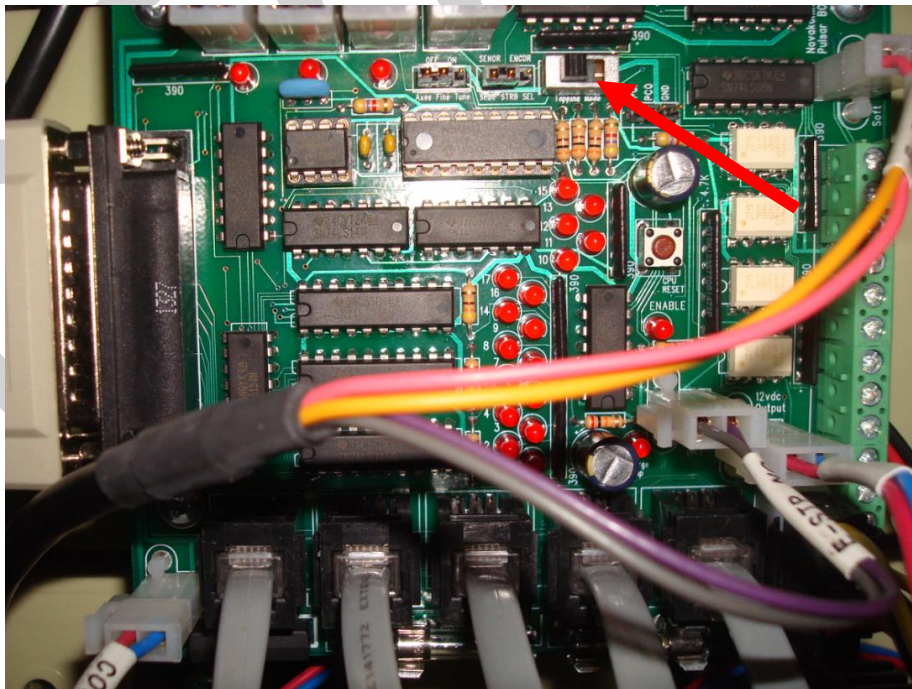

Figure 4-13 Rigid Tapping Selection Mode Selection Switch
- 10) **Rigid Tapping Switch** - Figure 4-13 shows the location of the Rigid Tapping Mode Switch on the BOB. Slide the switch to the ON position to implement Rigid Tapping.